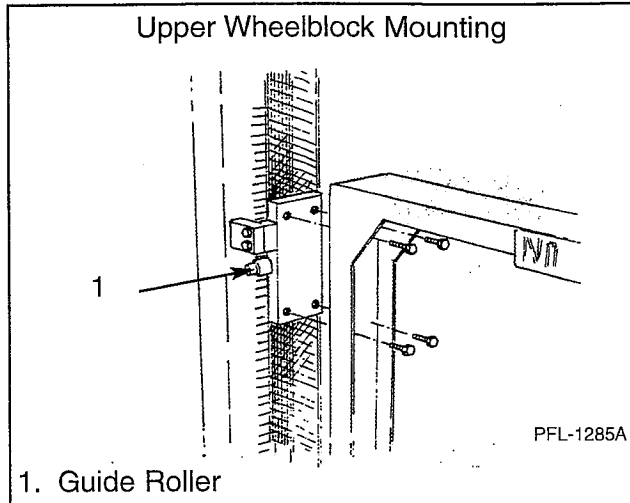

Figure 11
- Slide column alongside carriage so that the wheelblocks align with mounting holes. Bolt the carriage to the upper and lower wheelblocks using the screws previously removed. Make sure column is secured to the carriage. See Figures 11 and 12.